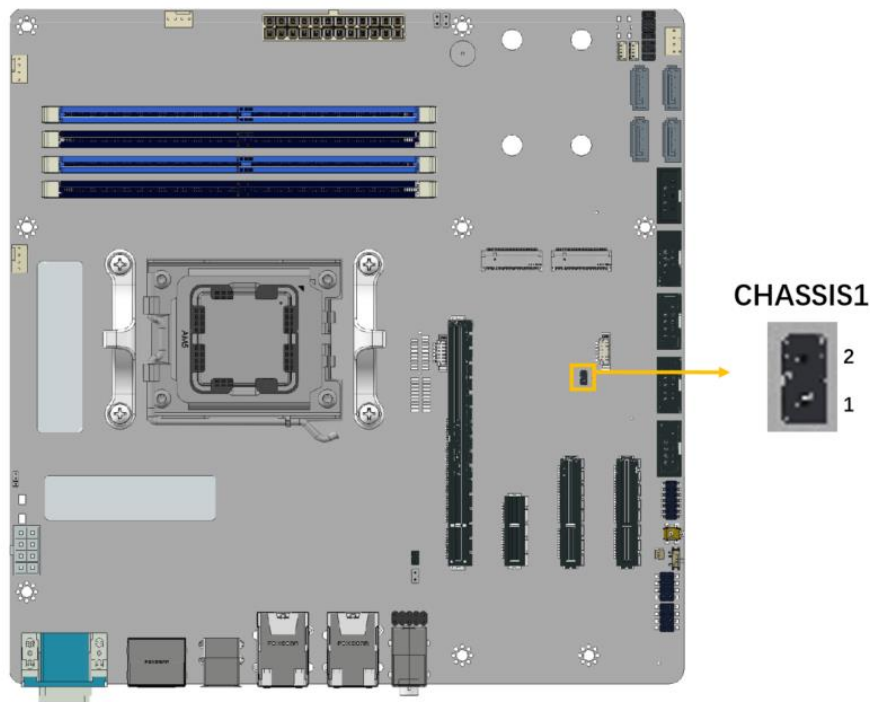

Figure 4-14: Chassis Intrusion Connector Location
- CN Location:** See **Figure 4-14**